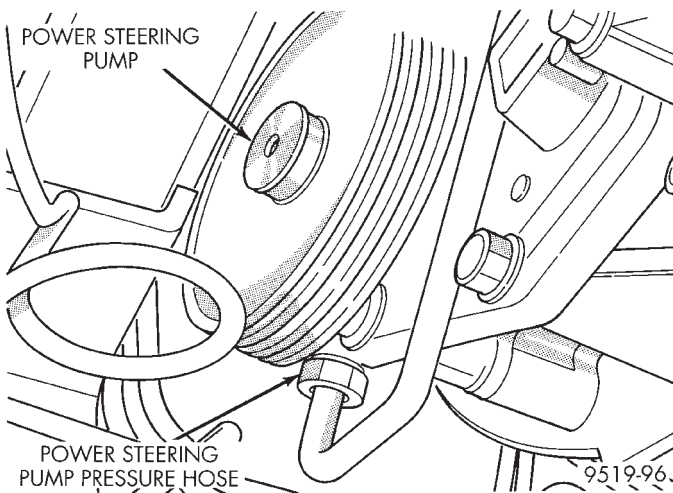

Fig. 4 Power Steering Pump Pressure Hose
(1) Disconnect the power steering fluid pressure hose from the power steering pump (Fig. 4).
(2) Connect Adapter Fitting, Special Tool 6844, attached to pressure hose from inlet (gauge end) of Power Steering Analyzer to the pressure fitting on the power steering pump.
(3) Connect vehicle power steering fluid pressure hose to Adapter Fitting, Special Tool 6826, which should be already installed in the outlet hose (valve end) of Power Steering Analyzer.